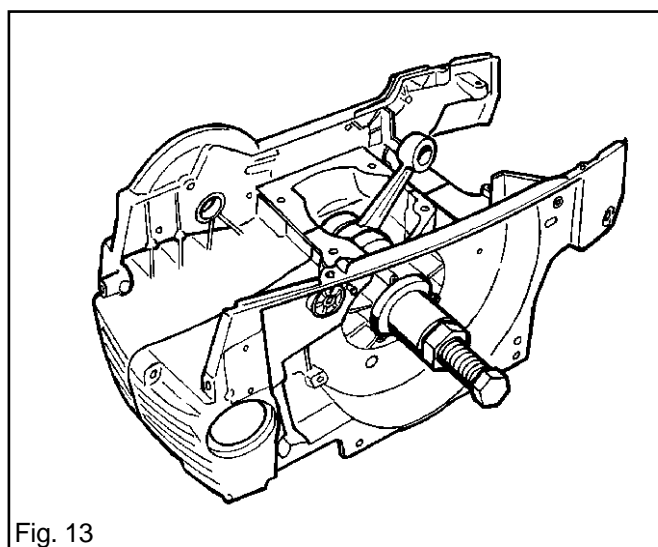

Fig. 13
5. Use tool 502 50 30-14 and pull on the flywheel side crankcase half. Pull until the gasket is clamped between the two halves. See fig. 13.